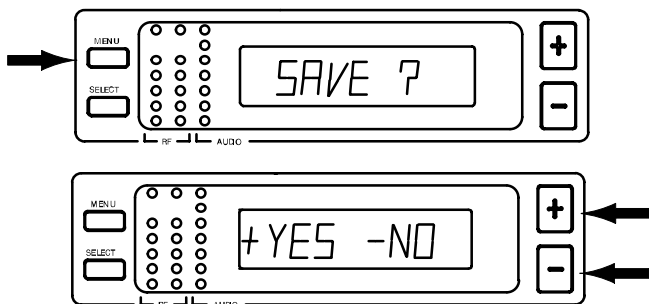
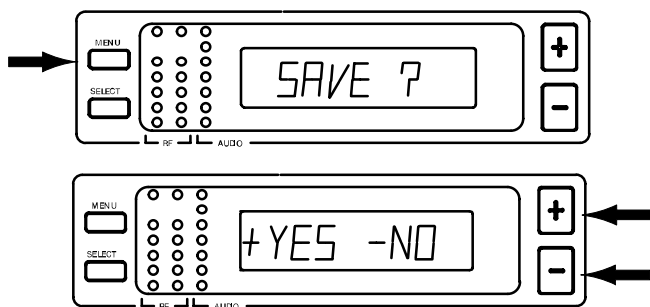

FIGURE 15
FIGURE 20
7. When the new Group/Channel has been completely entered, press the MENU button. "SAVE?" appears on the display, followed by "+ YES - NO". Press the "+" button to save the new Group/Channel setting or press the "-" button to return to the original setting. See Figure 15.
5. Press the MENU button to enter the desired frequency, as shown in Figure 15. SAVE? appears on the display, followed by "+ YES – NO". Press the "+" button to save the new frequency, or press the "-" button to return to the original setting. See Figure 20.